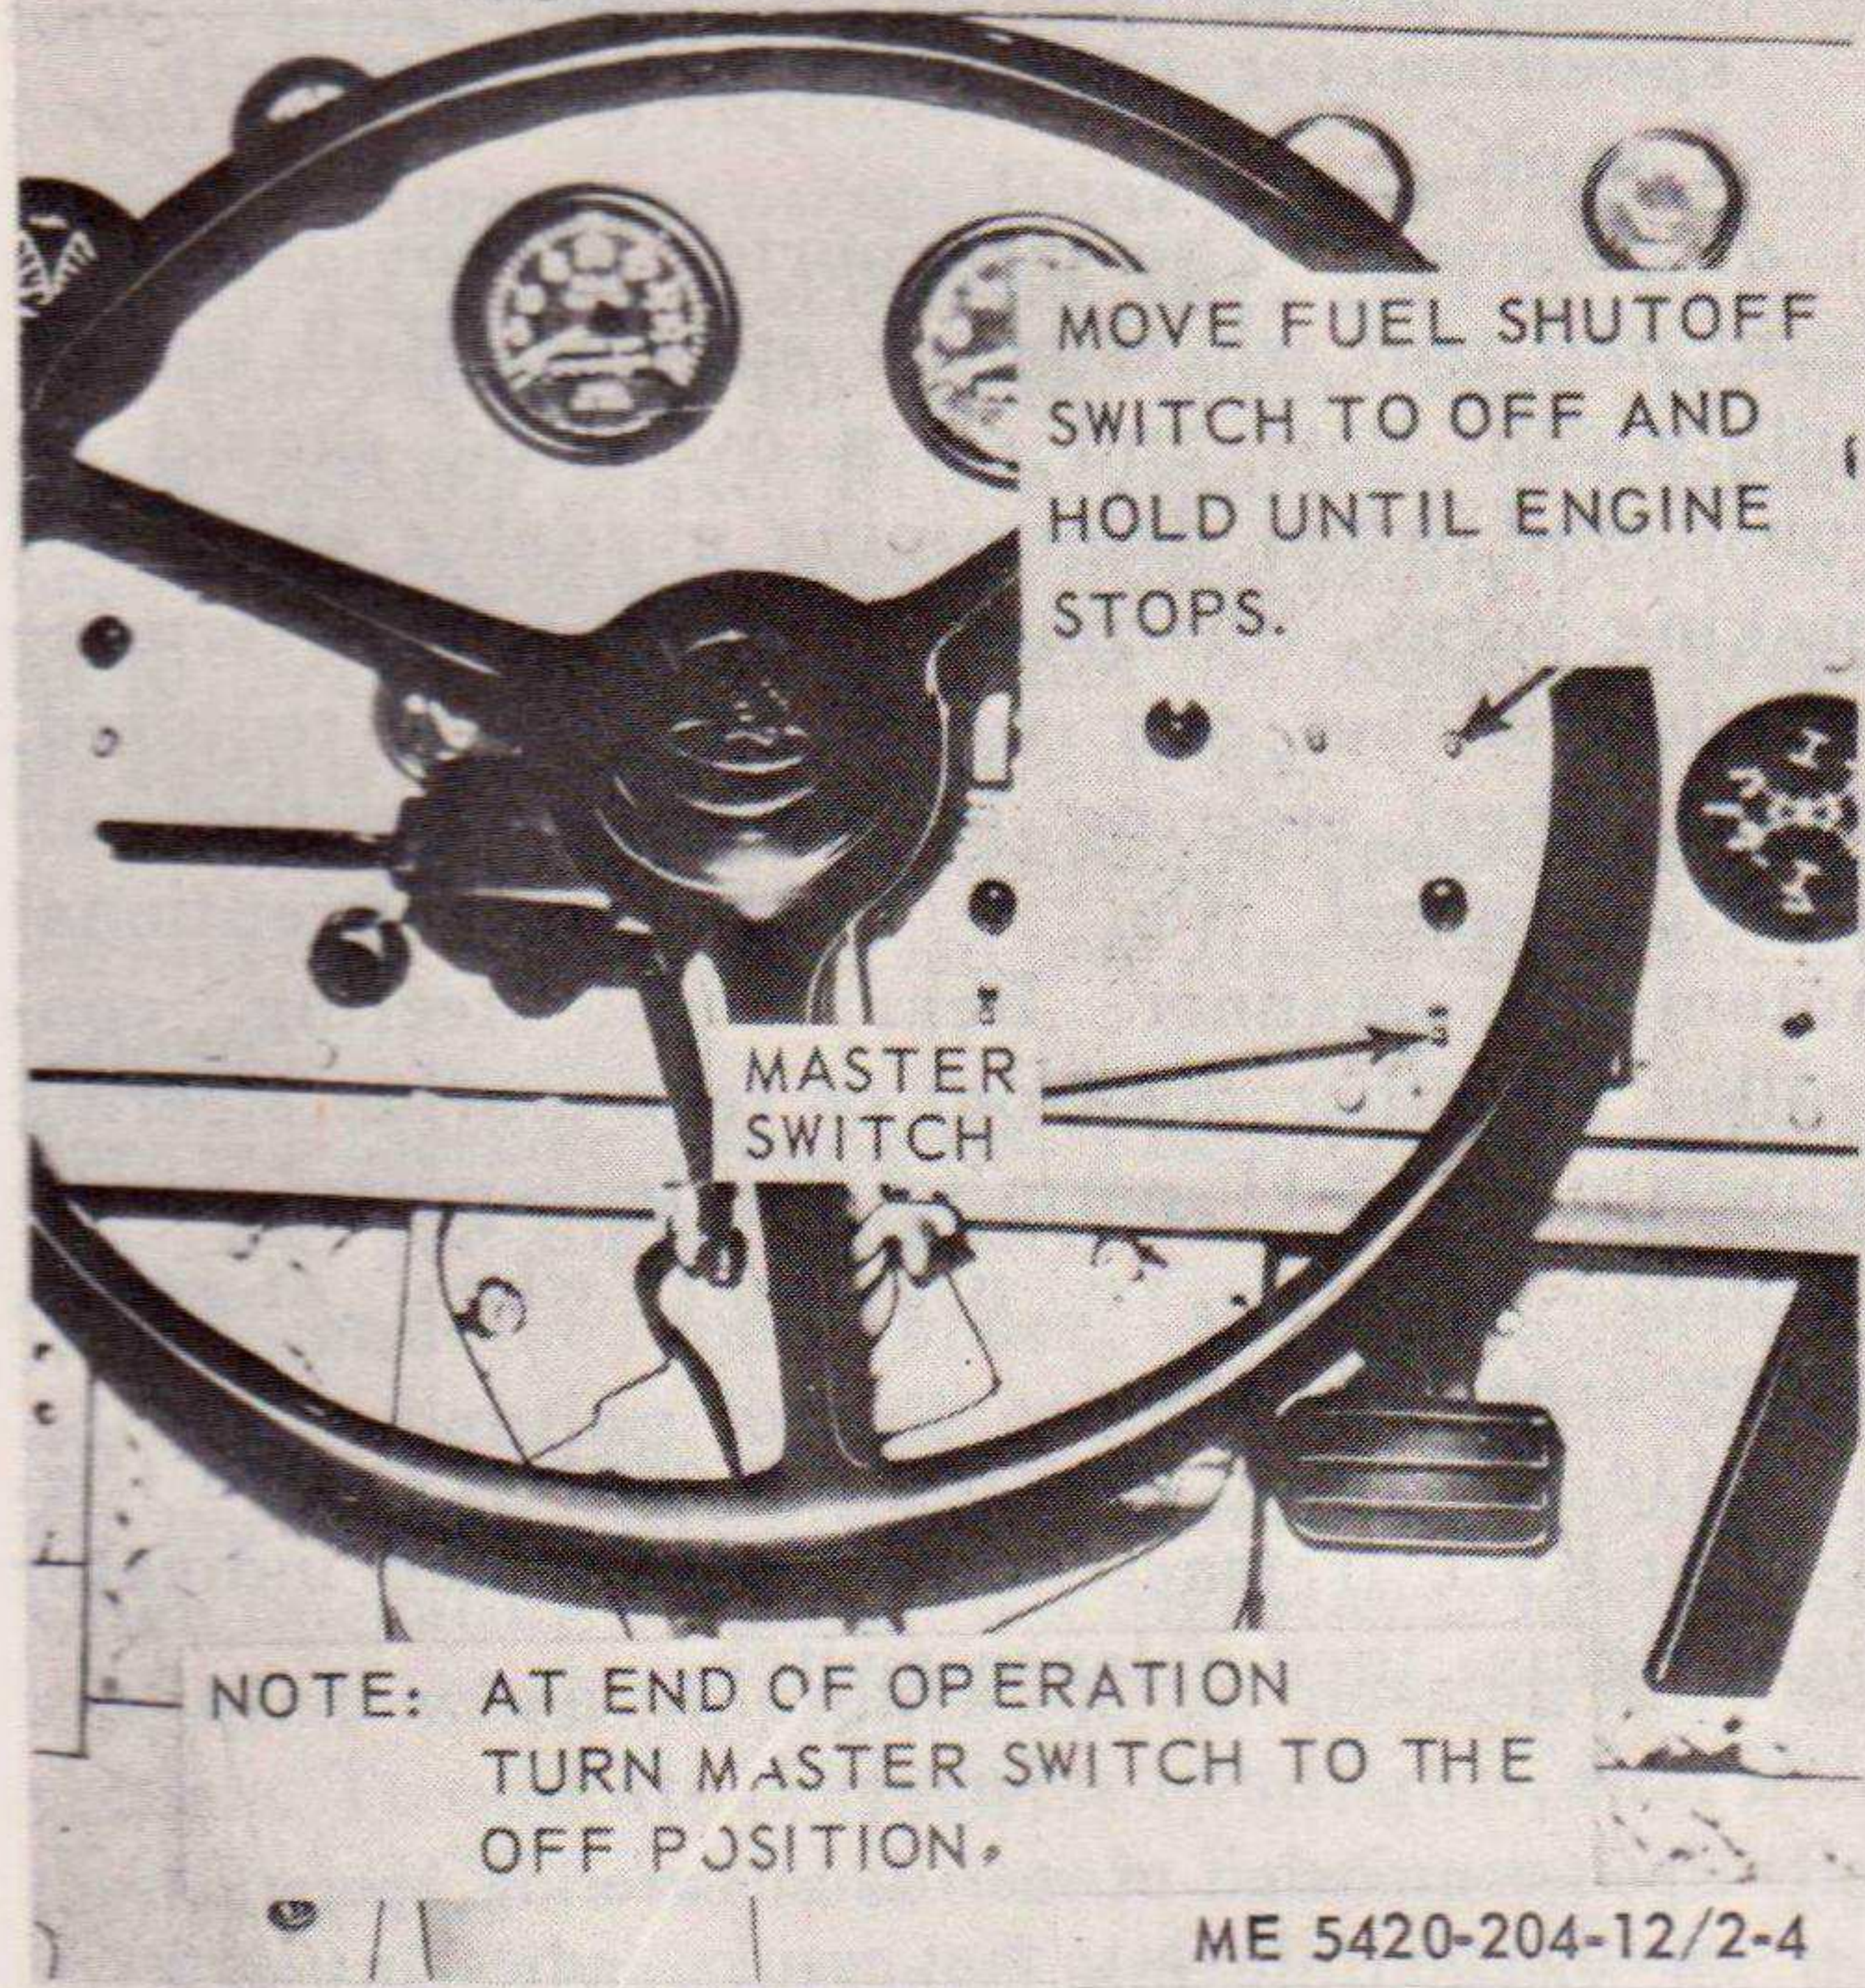

Figure 2-4. Stopping the engine.
a. *Normal Stopping.* Refer to figure 2-4 for normal stopping of engine procedure.